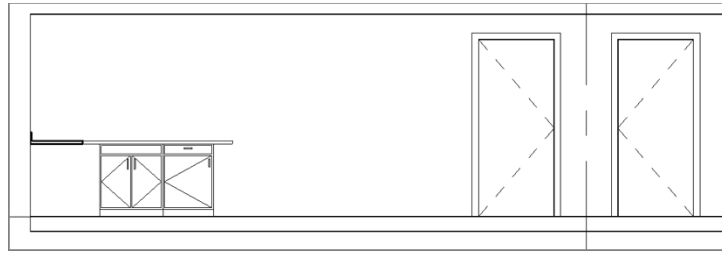

FIGURE 9.59: The elevation of the cabinet run
4. Press Esc twice, or click Modify; then open the Kitchen North elevation. Does your elevation look like Figure 9.59?